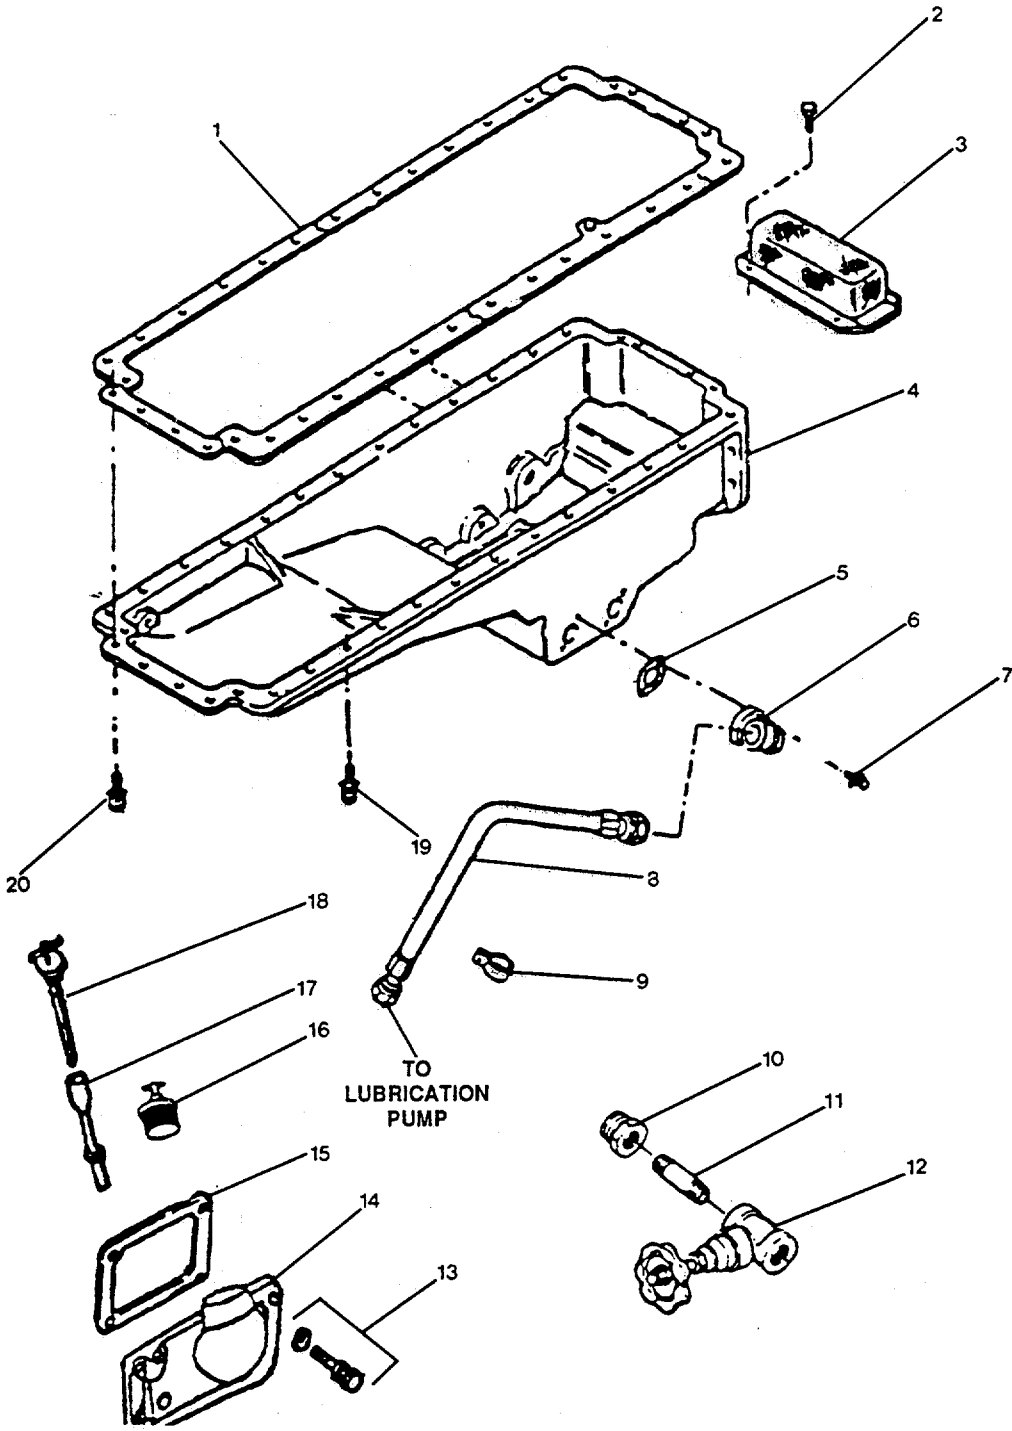

FIGURE 3-44. Oil Pan Group.
- a. Remove the liquid level gauge rod-cap (18, Figure 3-44) from the dipstick tube (17). Remove the filler opening cap (16).
- b. Remove the loop clamp (9) from the nonmetallic hose assembly (8).
- c. Remove the four machine screws and flat washers (13) from the access cover (14) and remove the tube (17), access cover (14), and handhold gasket (15) from the cylinder block. Discard gasket.
- d. Disconnect the nonmetallic hose assembly (8) from the oil pan (4) connection and lubrication pump connection. Remove the nonmetallic hose assembly (8).
- e. Remove the two assembled washer screws (7) from the flange-to-tube elbow (6) and remove the elbow (6) and the gasket (5) from the oil pan (4). Discard the gasket.
- a. Clean the nonmetallic hose assembly (8, Figure 3-44) and the mounting flanges. Clean the sediment strainer element (3). Inspect the nonmetallic hose assembly (8) and element (3) for damage. Replace as required.
- d. Visually inspect access cover (14), dipstick tube (17), and rod-cap (16) for damage. Replace if damaged.
- e. Visually inspect the pan (4) for signs of cracks or other damage. Replace the oil pan (4) if damaged.
- c. Install new gasket (1) and position oil pan (4) on the engine block. Install the capscrews (19, 20, Figure 3-44) finger tight.